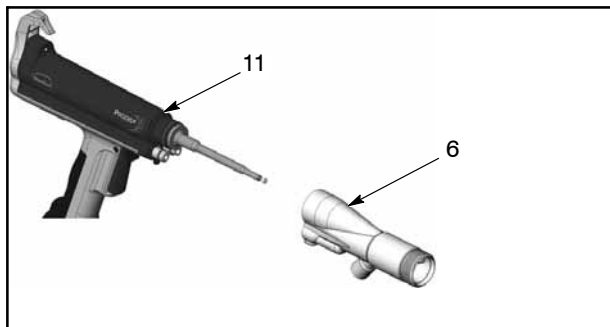

Figure 24 Removing the Adapter
5. See Figure 24. Pull the gun adapter (6) straight off the gun body (11).
5. See Figures 24 and 23. Install the adapter on the gun body. Tighten the set screw.
5. See Figures 24 and 23. Install the adapter over the electrode and resistor holders. Tighten the set screw.